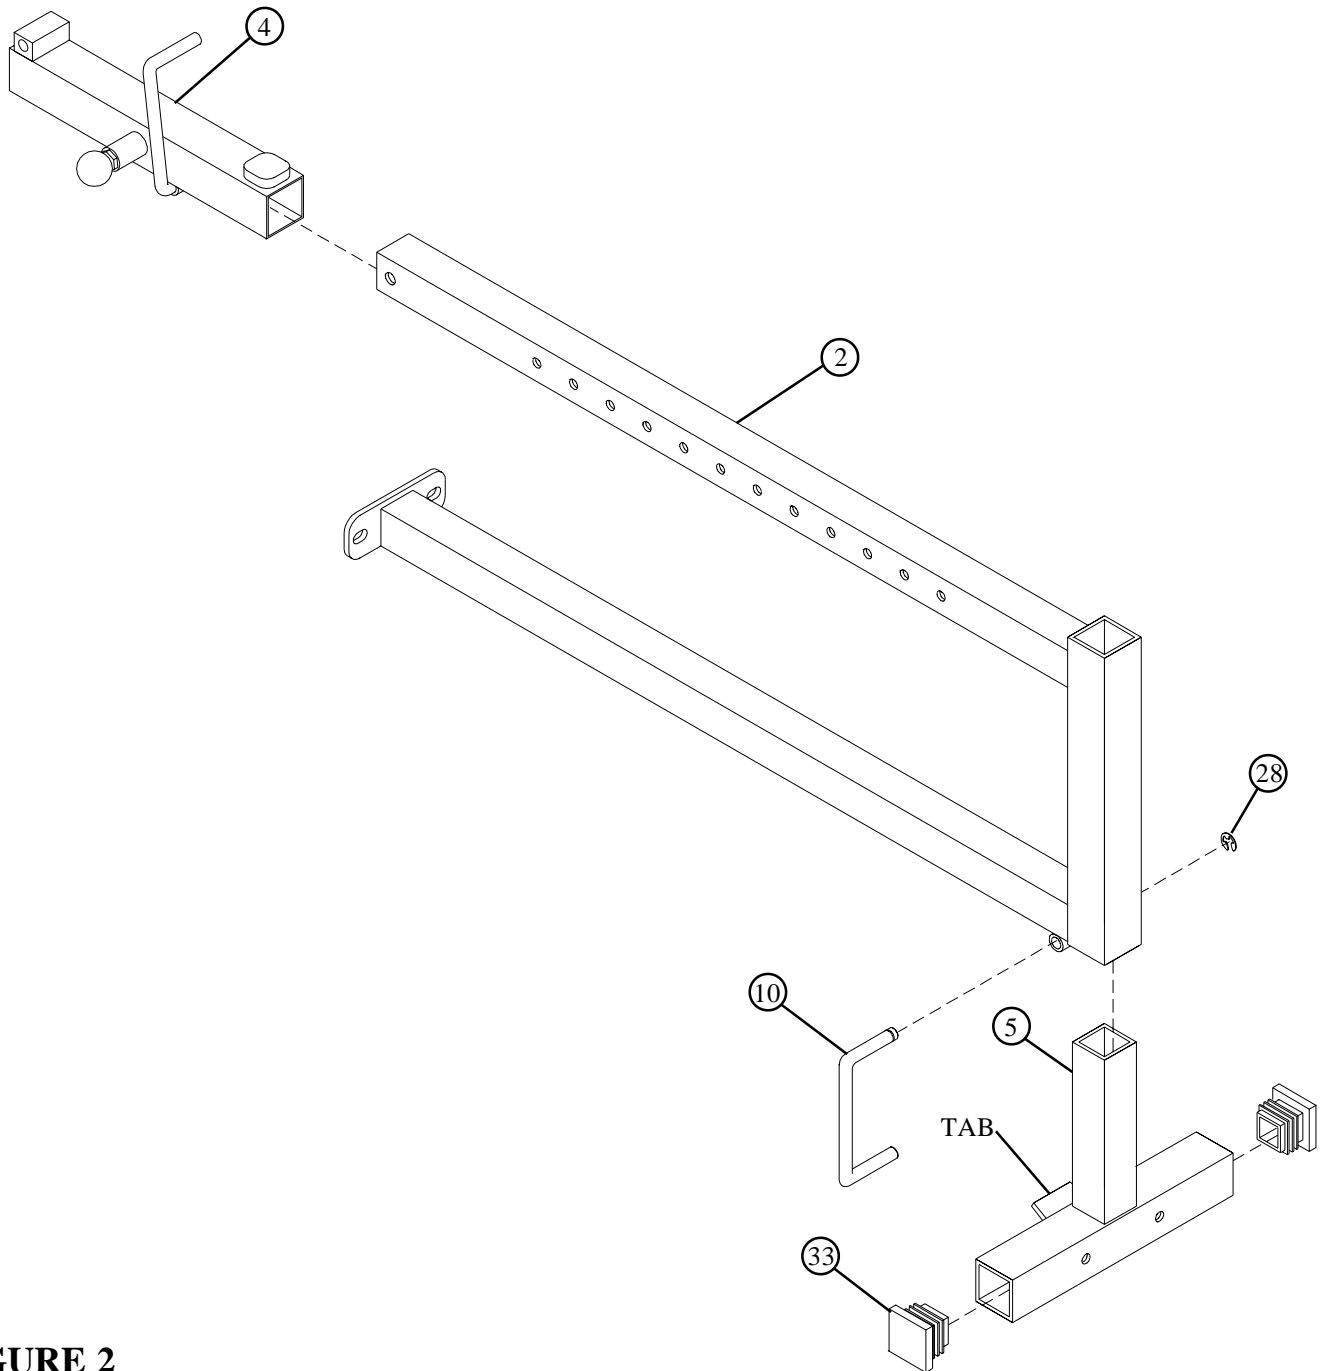

**FIGURE 1**
- Attach eight PARAGLIDE STRIPS (31) to the SEAT ADJUST (4) (FOUR ON EACH END) as shown in FIGURE 1 using the following steps:
- Insert one U-PIN (10) through the BUSHING of the SEAT ADJUST (4) and attach one E-RING (28) to the end of the U-PIN (10) as shown in FIGURE 1.
- **SECURELY** assemble one 3/8" SPRING PIN ASSEMBLY (25) to the SPRING PIN HOUSING on the SEAT ADJUST (4) as shown in FIGURE 1. (**!!! IMPORTANT !!! TIGHTEN THE NUT OF THE SPRING PIN ASSEMBLY SECURELY**)